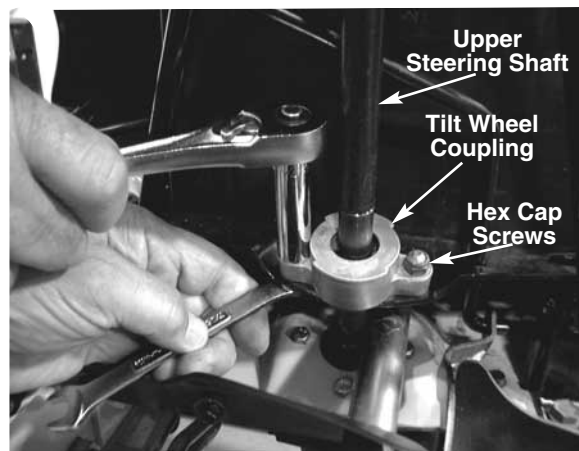

FIGURE 2.
3. Remove both hex cap screws and lock nuts from the tilt wheel coupling using a 7/16 wrench and a 7/16 socket. See figure 2.